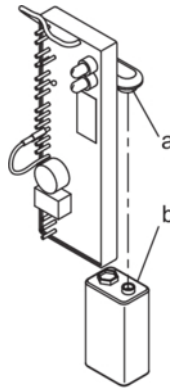

Fig. 7: Battery replacement
4. Insert new battery into the connection clip (see Figure 7).